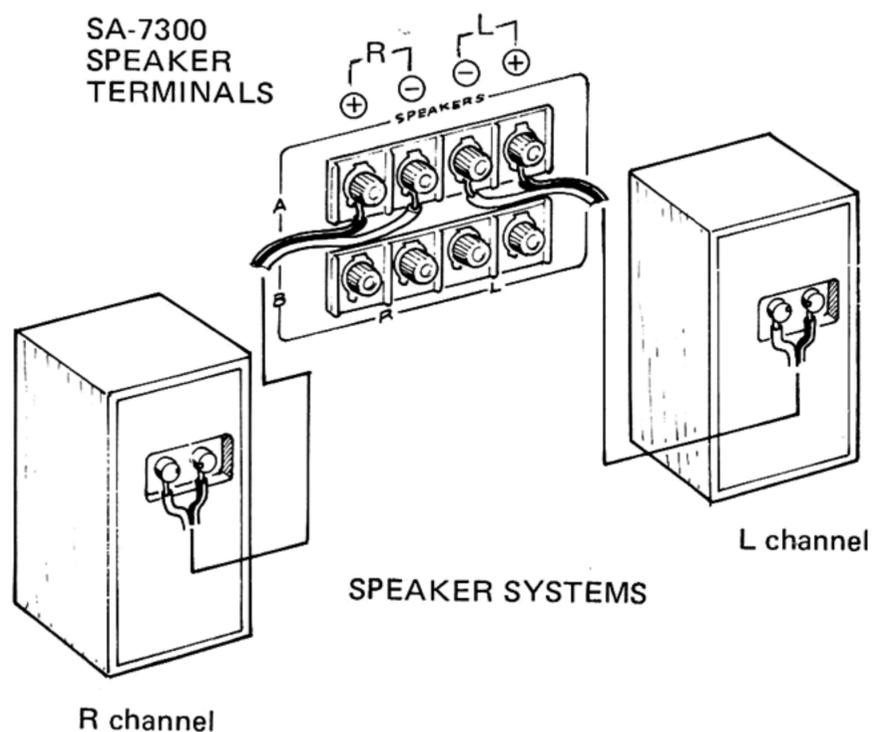

Fig. 1
- As shown in Fig. 1, connect the right (R) channel speaker system (as viewed from the listening position) to the R terminals and the left (L) channel system to the L terminals.